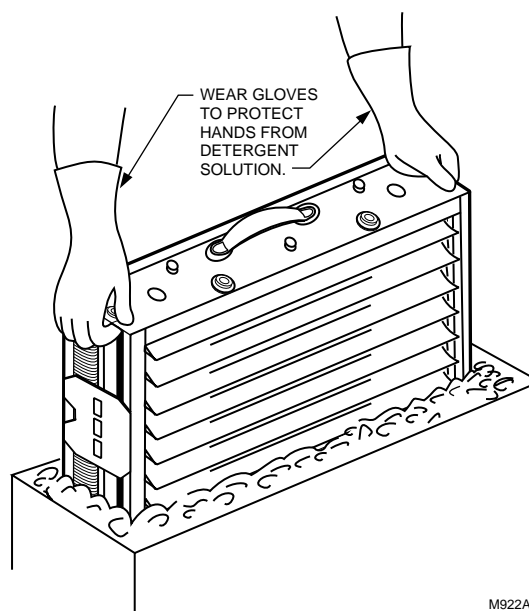

Fig. 21. Washing cell(s) in container.
3. After the detergent has completely dissolved, place the cell(s) in the container and let soak for 15 to 20 minutes. Agitate up and down a few times, and remove. See Fig. 21.